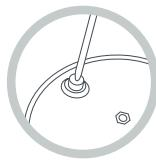

Fig.5a
1. Vent (23). Remove the lid and the rotary valve. Check inside the lid that the vent is completely clean. Otherwise, clean it with a thin rod (Fig. 5a).